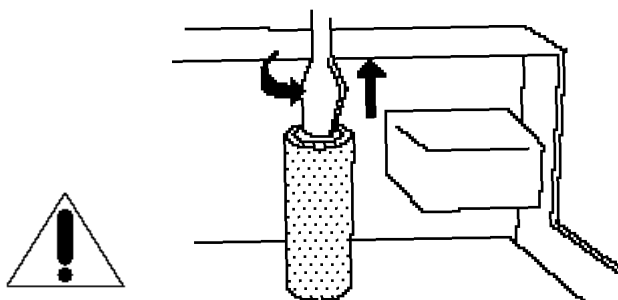

Figure 5 - Fuse location, next to AC power socket.
1. Check that the AC Detachable Power Cord is plugged into the SFD-1 Detachable Power Cord Socket (F) and is connected to a live source of AC power. For instance, if using a power bar, check that the bar is turned on.
2. Ensure that the digital source is connected to the appropriate digital input (B,C or D) as selected by the Input Signal Selector Switch (C).
- A "fast-blo" fuse, with a rating of 1.5 Amp/250 V (.075 Amp/250 V for European and Asian versions), is installed in the cylindrical tube next to the AC power socket (Figure 5).
- The AC power fuse is intact and has not blown. If the fuse has blown the thin metal conductor will have melted and the glass may appear "smoked". If the fuse has blown, replace with a fuse of the same rating (1.5 Amp/250V fast-blo for 100 to 120 volt countries and 0.75 Amps/250V fast-blo for 200 to 240 volt countries). See Figure 5 for location and removal.